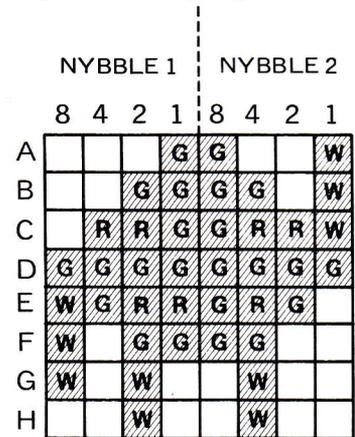
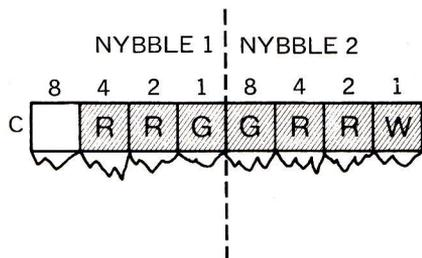

Figure 1. Planning the 8×8 grid.
Figure 3. Two half bytes from Fig 1.
a sprite is fun. All you need is a piece of squared graph paper and a pencil. Draw out an 8×8 grid and then colour in the shape of your invader (fig 1). In mode 512 you have the choice of red, green, black and white. Remember, as each square only occupies a pixel it doesn't pay to be too ambitious and aim for a multicoloured tapestry effect. Chances are, nobody'll notice it, anyhow!
1. Draw an 8×8 grid exactly as shown in fig 1 (don't forget the
If you're still confused, look at fig 3. It represents line 'C' from fig 1. As you